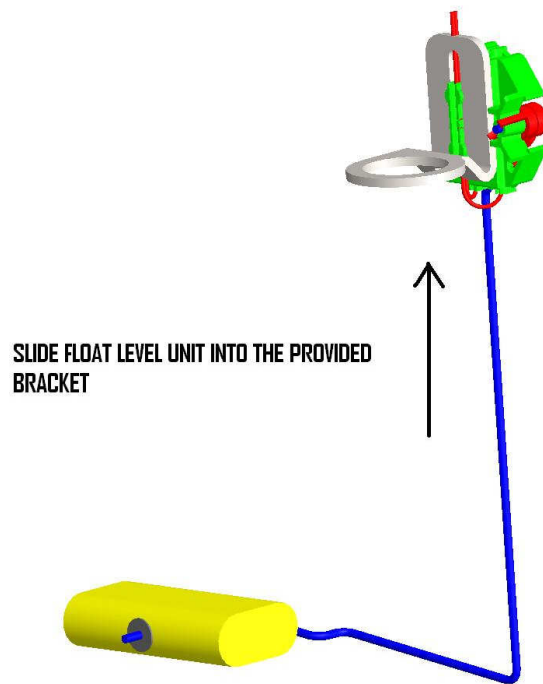

FIGURE 1-9
18. Take the fuel level sensor you just removed and place it in the bracket provided. **FIGURE 1-9**